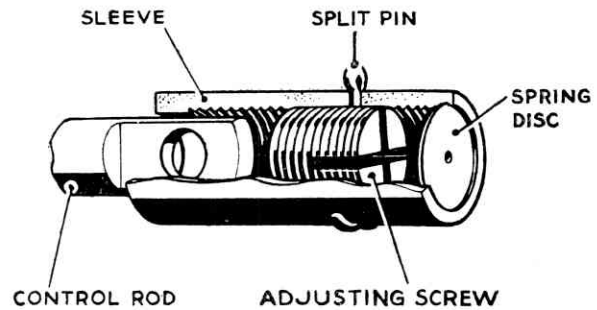

FIG. 89 CONTROL ROD STOP
- (b) With the aid of a hooked piece of wire, release the spring disc, Fig. 89, from the sleeve, then remove the split pin. Screw the adjusting